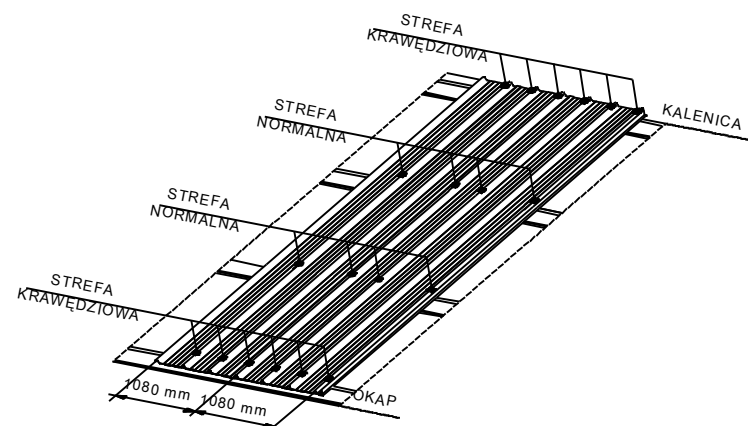

fig. 9
60mm for intermediate supports (see Fig.9)
40mm for end supports (see Fig.9)
i. As standard, the panels are fixed with two fasteners in general area and three fasteners in areas near the roof edges. The width of corner areas for walls and areas near the roof edges for roofs are given in the national standards for wind loads (fig.9)